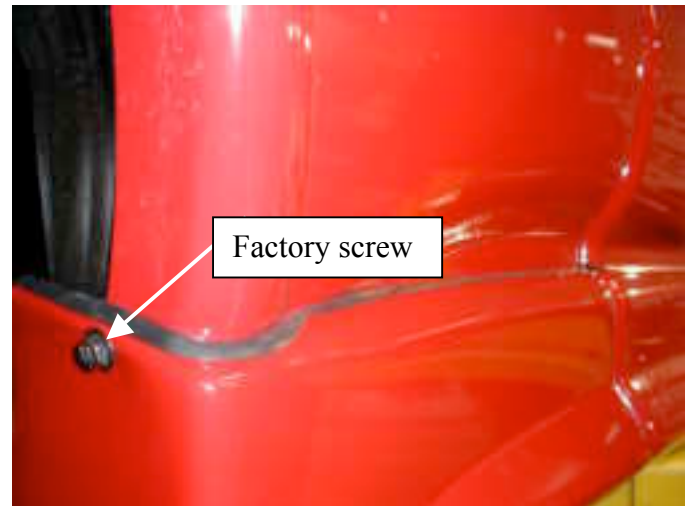

Figure 6
4. Pre-fit the skirt. Use the factory screw you removed in Step 1 and the hole in the wheel well area of the skirt to line up the rear of the part edge (Figure 6). Then line it up with the front skirt section. Mark with a grease pencil or masking tape along the top.
8. Put the part in place. Replace the factory screw that was removed in Step 1. Make sure the part is level and the front lines up with the back of the front skirt (Refer to Figure 6).